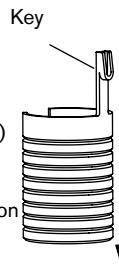

Fig. 23
- Squeeze the saddle height insert and insert it into the top of the seat-tube, aligning the key with the slot (fig. 23)
- Engage the key with the base of the slot (fig. 23)
- Refit the seatpost into the underside of the frame (fig. 23), making sure the post is clean